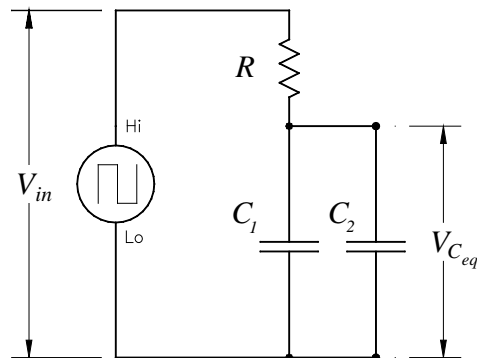

Figure 7 Diagram showing capacitors wired in parallel.
- 11) Now connect your two capacitors in parallel as shown in Figure 7.